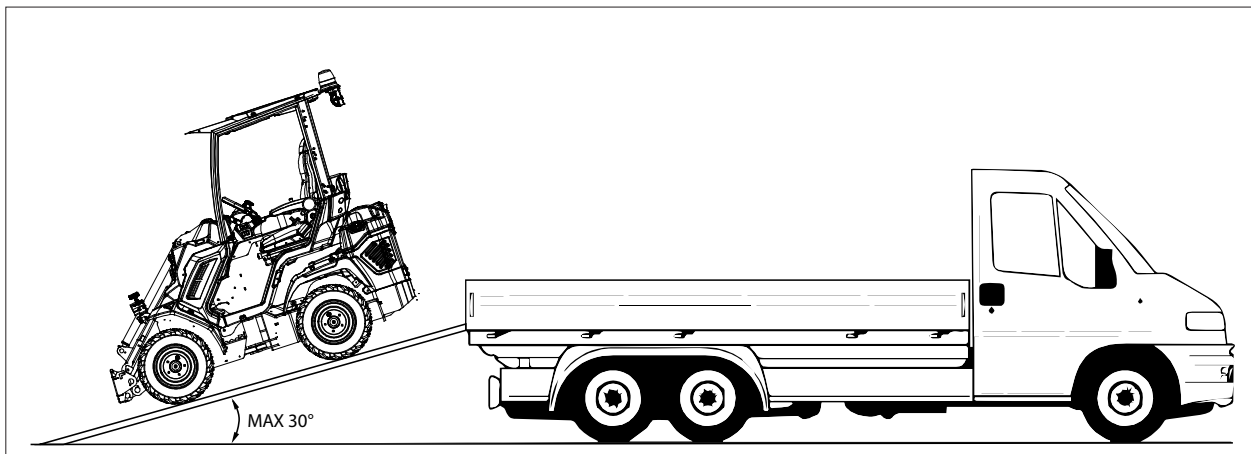

FIG. 16
- 4) It is recommended to back the machine onto the transport trailer and position it so that the heaviest weight (center of balance) is towards the front (hitch end) of the trailer (**see FIG. 16**).